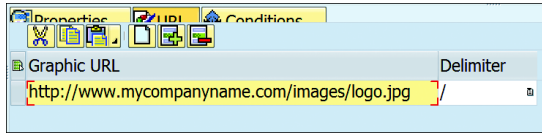

Figure 18.79 Logo URL
5. The **GRAPHIC REFERENCE** option is selected by default. To provide the URL when this option is selected, click the **URL** button at the top of the properties window and enter the URL of the image, as shown in Figure 18.79.